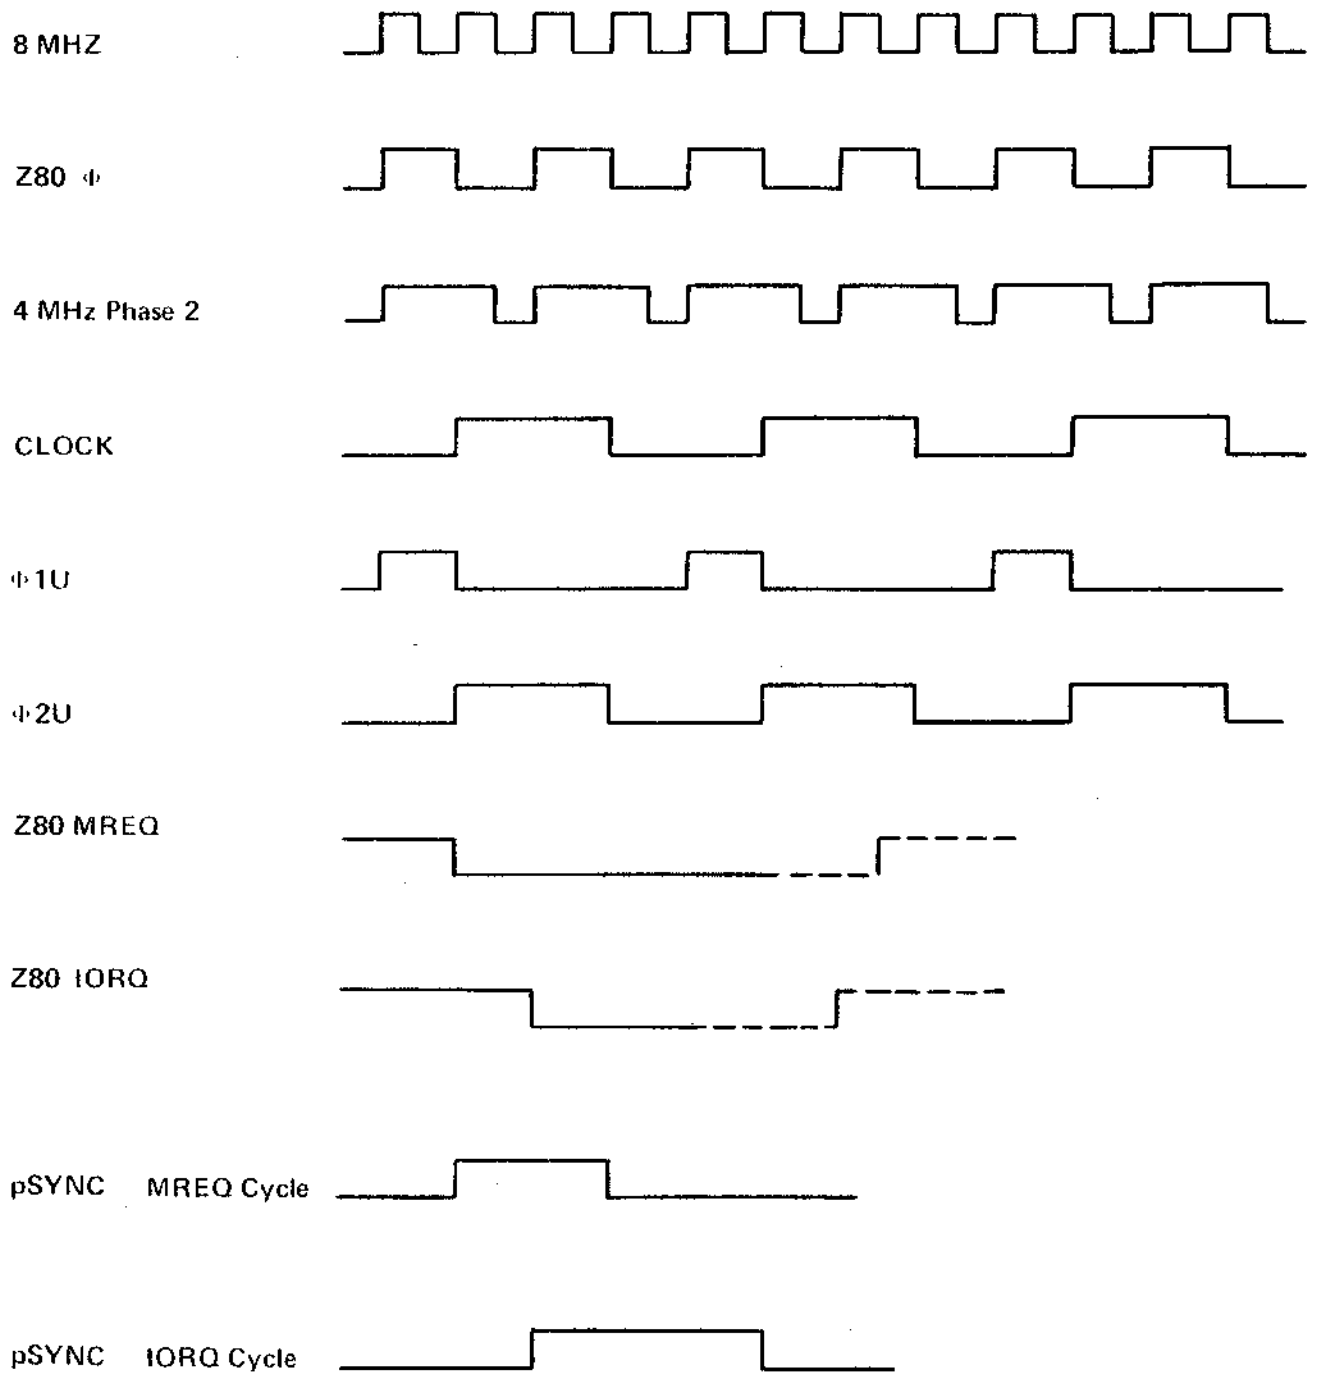

Figure 3-2 – Central Processing Unit Timing
- (1) 1U is the timing reference for UART 1. The UART divides this signal down to a software-controlled data communication line rate of from 110 to 76,800 baud.
- (2) 2U is the timing reference for UART 2. Its function is similar to (1) above.
- (3) CLOCK is a 2 MHz 40% - 60% duty cycle clock supplied to the S-100 Bus.
- (4) 4 MHz PHASE 2 is the master timing signal supplied to the S-100 Bus.
- (5) Φ is supplied to the microprocessor. Refer to Figure 3-2.
- (7) pSYNC identifies the beginning of a processing cycle. Refer to Figure 3-2.
- (8) pWR* signifies the presence of valid data on the Data Out Bus, DO0 -- DO7.
- (9) pDBIN requests data from the Data In Bus, DI0 -- DI7.
- (10) pHLDA is used in conjunction with HOLD* to coordinate bus master transfer operations.
- (11) MWRT is the write to memory.